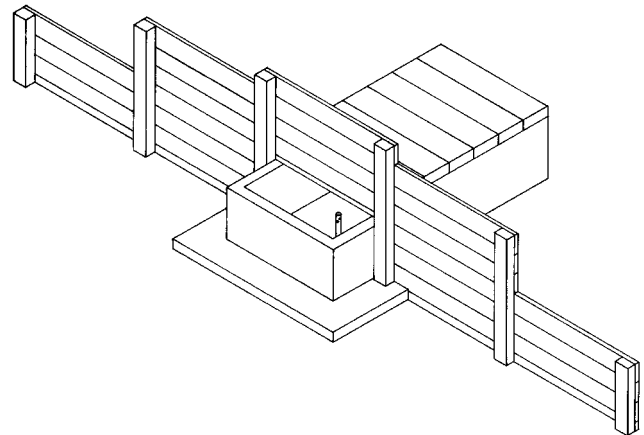

Figure 1. Stock tank and bulkhead cribbing ready for backfill.
The concrete tank described in this publication provides these benefits with a minimum of management, and because of its continuous trickle overflow, it requires no external power supply to prevent winter freezing (see Figure 1). It also permits livestock to be fenced away from the pond water source, which eliminates losses through drowning and prolongs the life of the pond.
14. A retaining wall bulkhead (see Figure 1) can help prevent bank washout around the tank. Posts must be set 4 feet deep and holes filled with concrete.